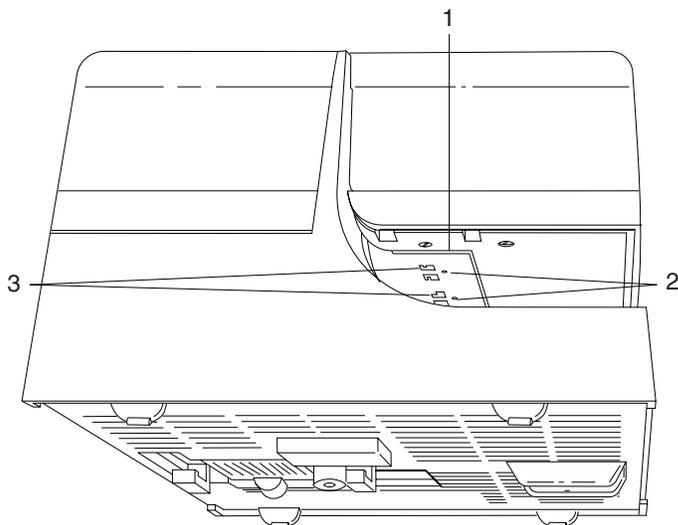

Figure 5-14. Document Insert Paper Guide
- 2 Set the printer as shown in Figure 5-14.
- 3 Gain access to the paper guide (1) through the document insert opening.
- 4 Lift the guide off the locating pads (2).
- 5 Move the guide toward the back of the printer until the holding tabs on the guide can be pulled out of the openings (3) in the frame.
- 2 Set the printer as shown in Figure 5-14
- 3 Put the paper guide (1) into place through the document insert opening.
- 4 Push the holding tabs through the openings (3) in the frame assembly.
- 7 Ensure that the guide is installed over the locating pads (2) and all four holding tabs are in place (the guide is against the bottom of the frame).